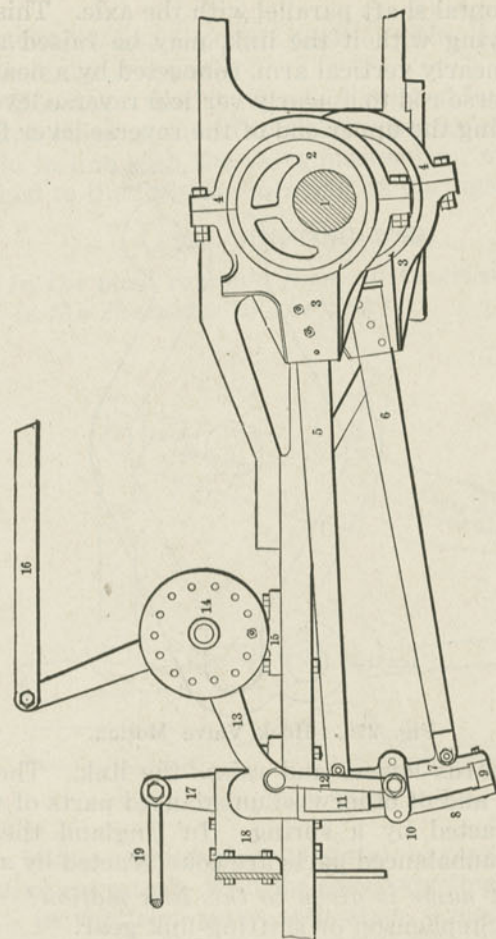

Fig. 276. Valve Motion Work, Shifting Link.
A. It is a curved piece of metal, having in it a slot of circular curvature, with its concavity toward the eccentric. In this slot plays accurately a block, which may pass from one end to the other thereof. This block is attached to the lower arm by a pin which serves as a pivot. The two eccentric-rods are attached to the ends of the link by pins serving also as pivots. The link itself has across it, as shown in Fig. 276, a plate to which is attached a pin, by which the link is hung by a nearly vertical link hanger to the lower end of a lifting arm borne
*A. In two main parts, the front and the back half (as shown in Fig. 276), with a filling piece 9 between them, and a saddle, 10, by which it is suspended by the link lifter 12, raised by the reverse-shaft 13; its weight being counteracted by the counterbalance spring 14.*
*A. By turning the case and adjusting the bolt in any one of the holes shown in a circle in the illustration, Fig. 276.*
*A. In four ways; (1) by increasing the angular advance; (2) by reducing the valve-travel; (3) by increasing the length of the link; (4) by shortening the eccentric-rods.*